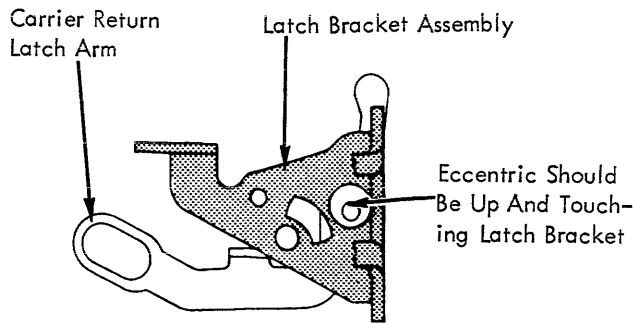

FIGURE 104. Pivot Pin Eccentric
- 5. Pivot Pin Eccentric (found on early level machines only) The eccentric collar should be adjusted with the high point up so that it just touches the operational latch bracket (Fig. 104). This prevents the pivot pin from bowing during a print escapement operation. The eccentric should also be adjusted laterally on the pivot pin so that the end play of the pivot pin will be .002" to .005".